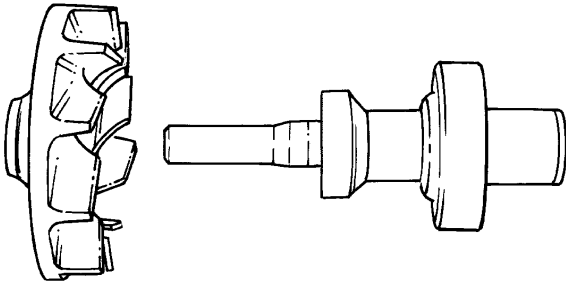

Figure 87 - Impeller and Coolant Pump Shaft - Inspection
- b. Inspect all parts for wear or damage. Inspect the impeller and coolant pump shaft (Fig 87), replace if required. Replace all seals and bearings.